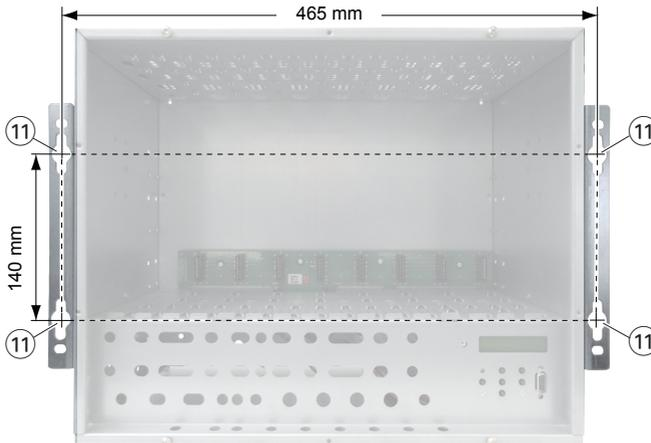

Fig. 14
- Align the studs (1) on the mounting bracket (3) with the hole matrix on the housing and snap it into place. The distance between the back side of the housing and the back edge of the mounting bracket is approx. 75 mm.
- Screw in the 6 thread-forming countersunk screws (2) that were supplied.
- Insert wall plugs suitable for the wall properties into the wall so that they correspond to the dimensions in the following illustration (fig. 14, (11)).